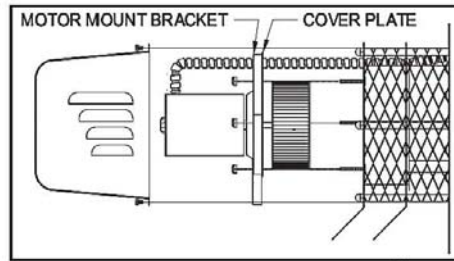

Figure 3
3. Remove the nuts securing the motor assembly, and pull the motor assembly straight off of the unit. (See Figure 3)
1. Align the holes in the circular cover plate with the holes in the motor mount bracket on the motor assembly. (See Figure 3)
2. Slide the motor assembly onto the protruding threaded studs on the power vent body with the exhaust chute pointing downward, and replace the nuts securely to the threaded studs. (See Figure 3)